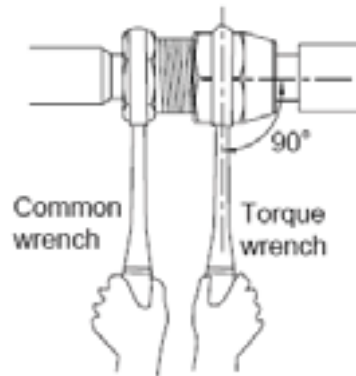

Fig. 14
- (3) Use torque wrench to tighten the flared nut until the wrench gives out a click sound. (Hold the handle of wrench at right angle to the pipe. as in Fig. 14)